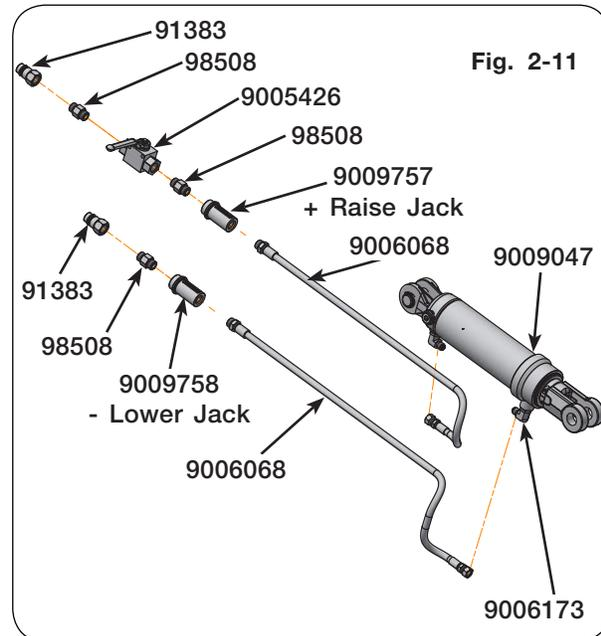

Fig. 2-11
1. Assemble hoses (9006068) and fittings to cylinder (9009047). The valve needs to be attached to the hose on the base end of the cylinder. Assemble the fittings on the cylinder so they face each other, then store the hydraulic hoses on the hose caddy. (Fig. 2-11)